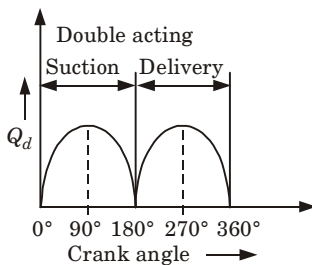

Fig. 5.24.1.
- When the crank rotates from $\theta = 0^\circ$ to $\theta = 180^\circ$, Fig. 5.24.1, the piston or plunger which is initially at its extreme left position move to its extreme right position.